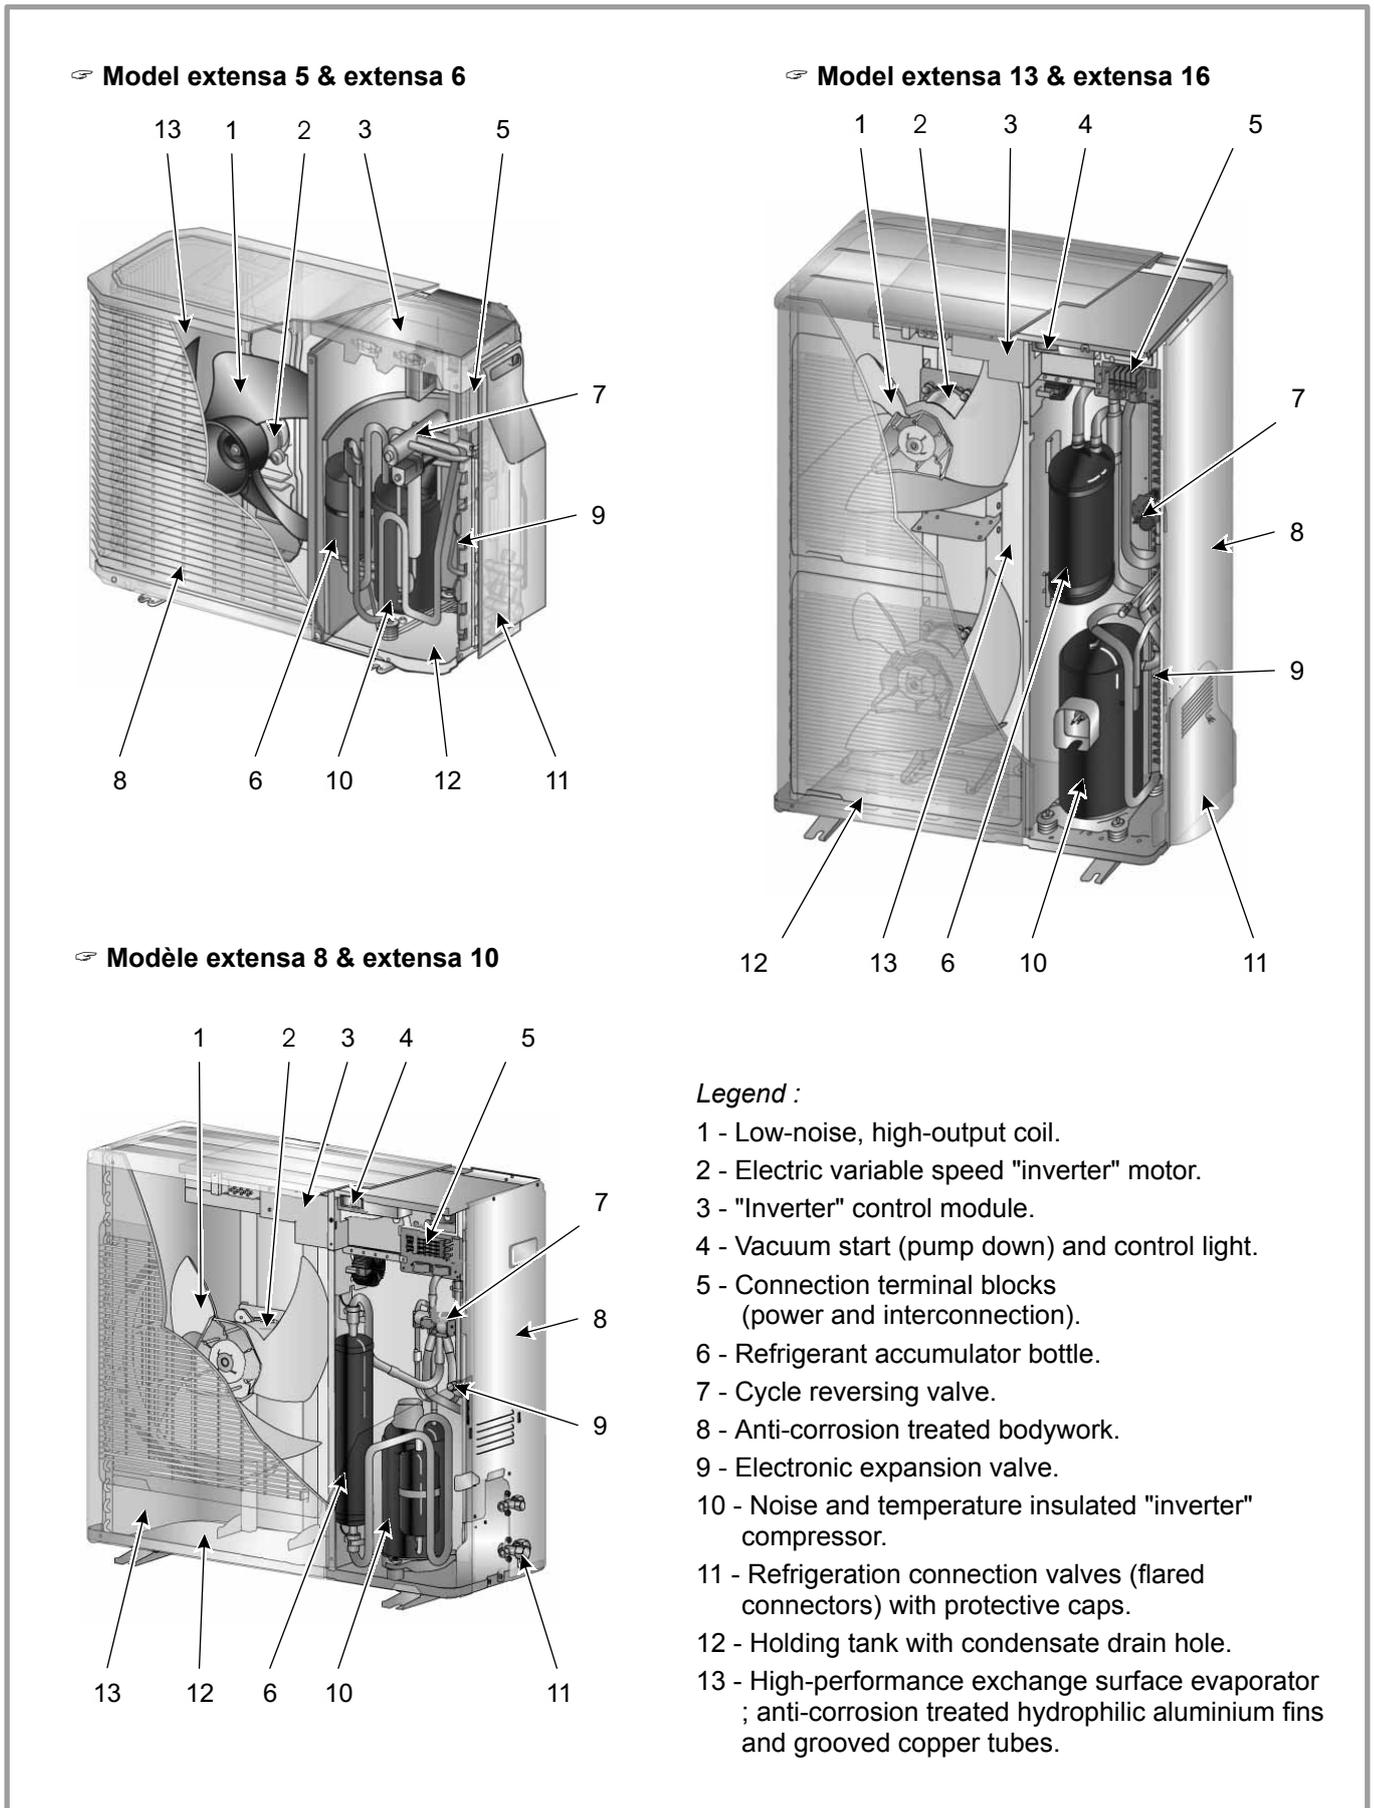

figure 7 - Outside unit components
- In the condenser (ref. **14**, figure 7, page 10) :